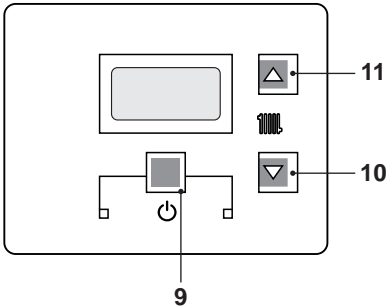
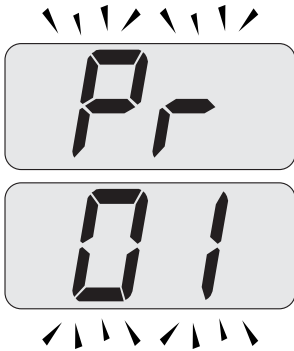
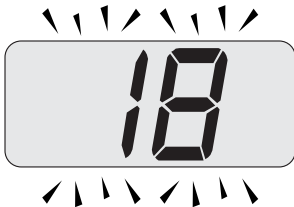

Fig. 7.47
Fig. 7.48
Fig. 7.49
- Enter the "programming mode" by pressing keys 9 - 10 - 11 (Fig. 7.47) for 10 seconds at the same time until the letters **Pr** that alternate with code **01** are displayed on the LCD display, indicating that "parameter 01"(Fig. 7.48) has been activated.
- Press keys 9 and 11 (Fig. 7.47) at the same time until the value of parameter 18 (18=Activ A 12OV or 19=Activ A 15OV or 20=Activ A 20OV or 21=Activ A 25OV) is displayed on the LCD display (Fig. 7.49).
- Press keys 9 and 10 (Fig. 7.47) at the same time to exit without changing the value (return to the parameters list Fig. 7.48)
- Press keys 9 - 10 - 11 (Fig. 7.47) at the same time for 10 seconds to exit the "programming mode".